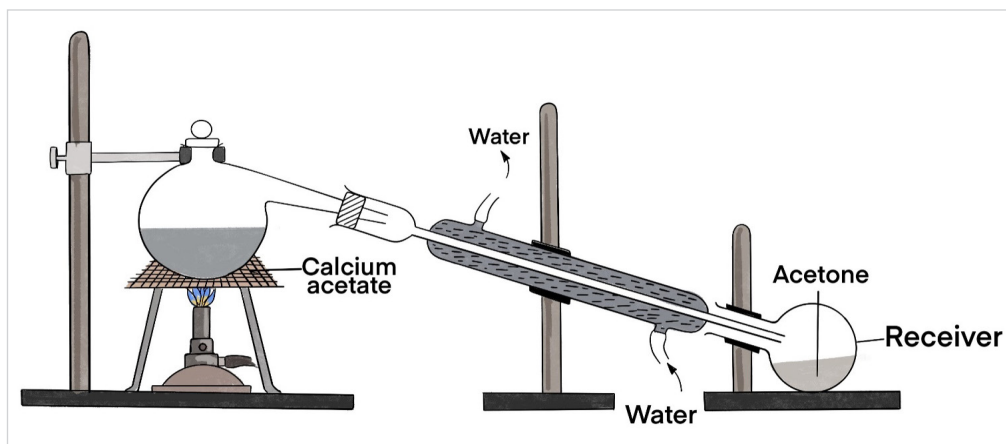

Figure 6.2: Preparation of propanone
2. Fix the apparatus as shown by the above figure 6.2.